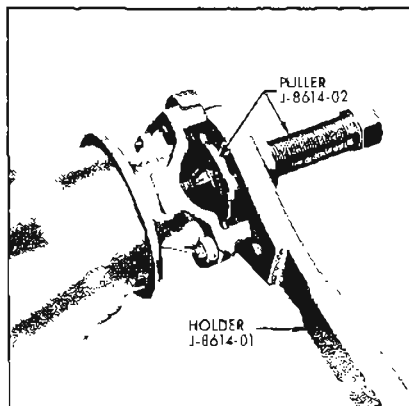

Figure 6-15—Removing Pinion Flange
3. Pull pinion flange from pinion using Puller J-8614-02 in Holder J-8614-01. To install puller, back out puller screw, insert puller through holder, and rotate 1/8 turn. See Figure 6-15.